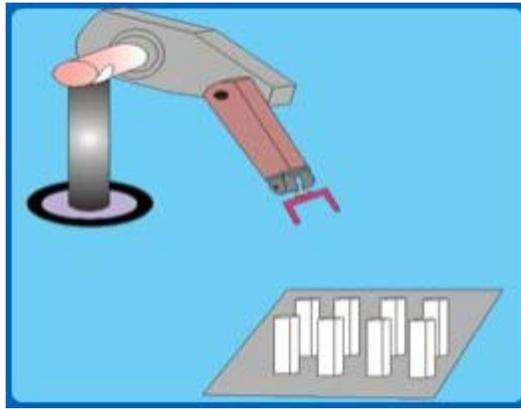

Figure 3.5.1
3. Palletizing (soft drink bottles to be placed in a crate). This is a special type of Point to Point task – this occurs when bottles are placed in a crate. See Figure 3.5.1